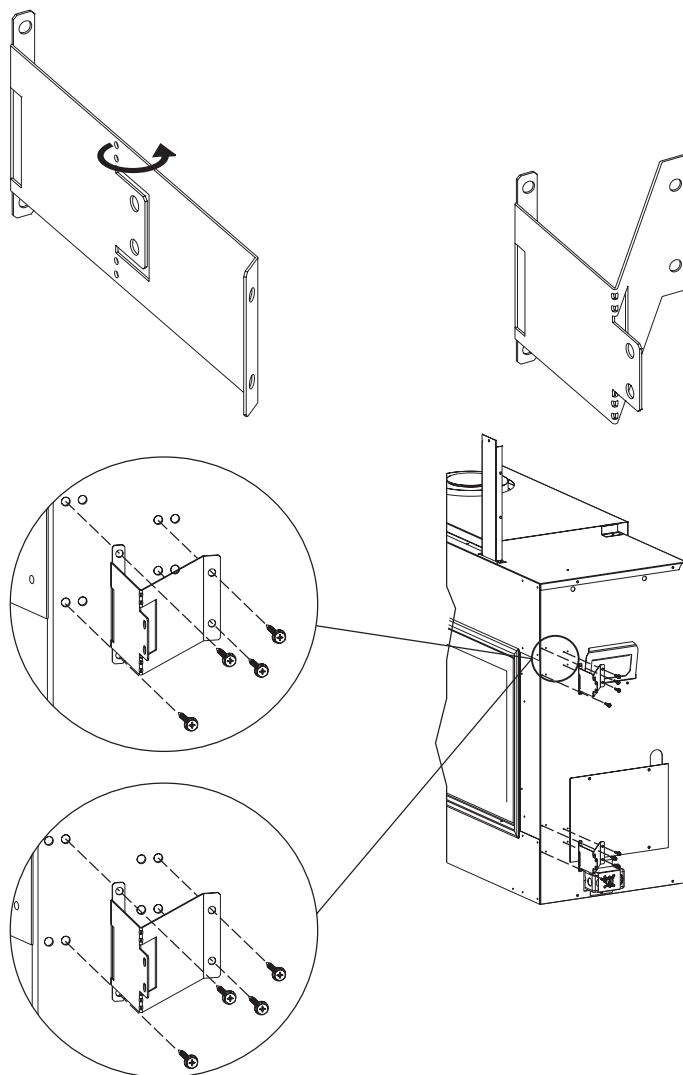

Figure 24
3. Secure the four framing brackets and hand bend them into a V shape as shown in **Figure 24**. Secure with #10 x 1/2-inch hex-head screws.
4. Locate the nailing flanges on the sides of the fireplace (two each side). **See Figure 24.**